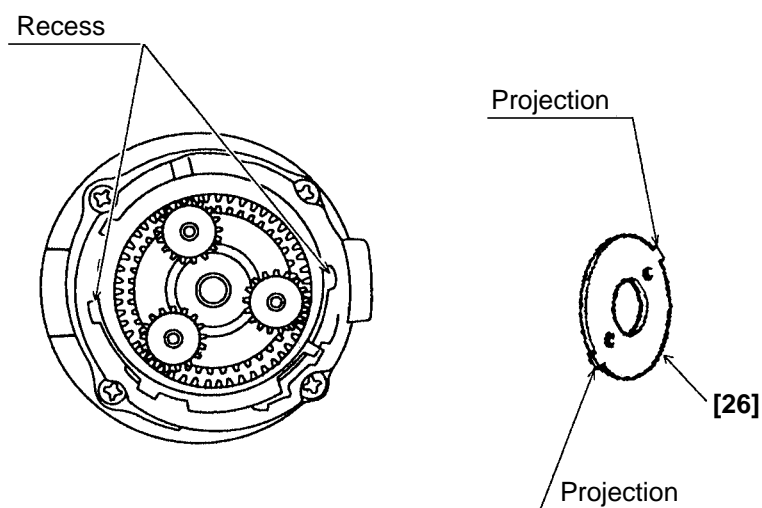

Fig. 8
(ii) Install Washer (B) [26] in the Rear Case [17] with the projections of Washer (B) [26] engaged with the recesses in the Rear Case [17], and turn Washer (B) [26] clockwise until it can turn no further. (See Fig. 8.)